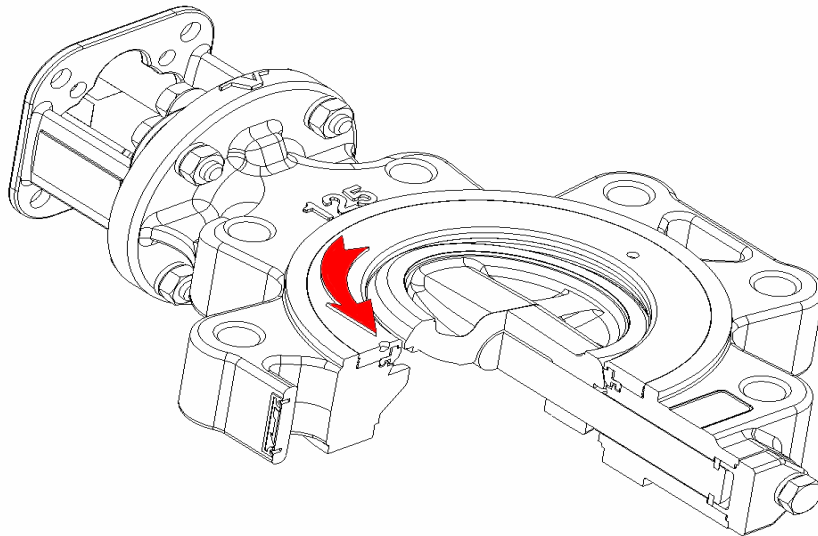

Fig. 2
- d. Slightly open the valve to 10 degree, loosen the seat retainer in turning it counterclockwise and remove the retainer. If it was stuck then using a hexagonal spanner or “+” screwdriver to hold the holes of retainer and turn it up (Fig. 2).